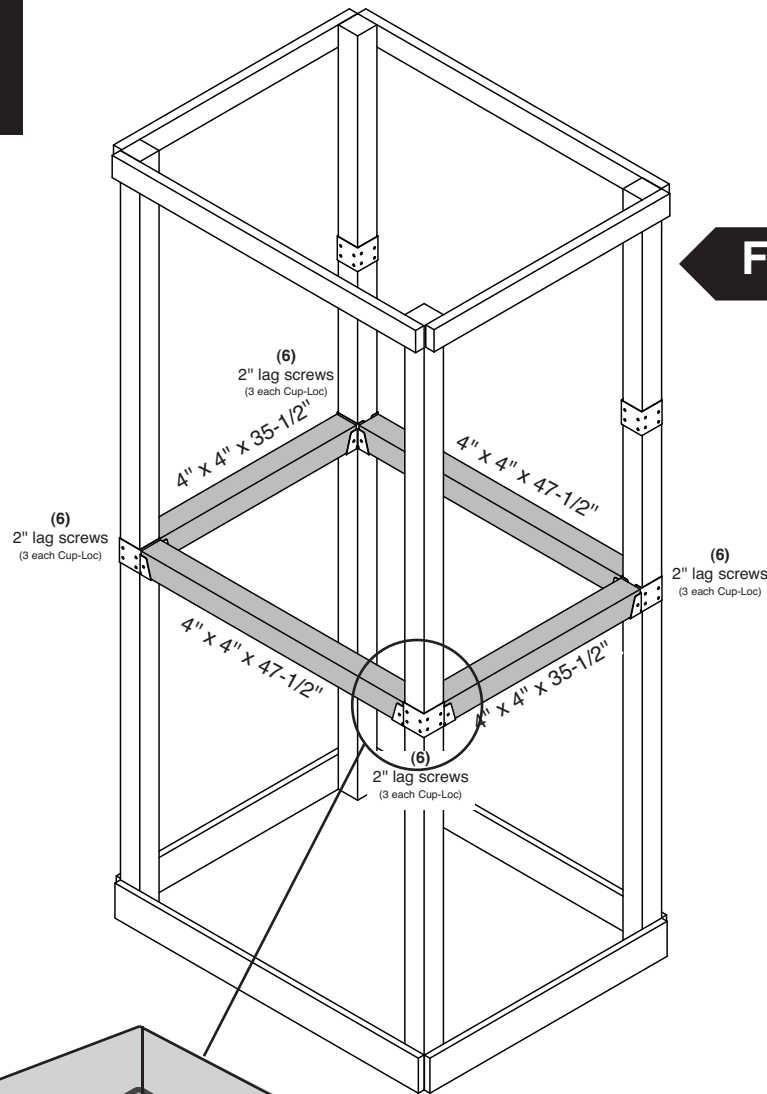

Fig. 6
- 8.** Install 4" x 4" beams as shown in **(Fig. 6)**.